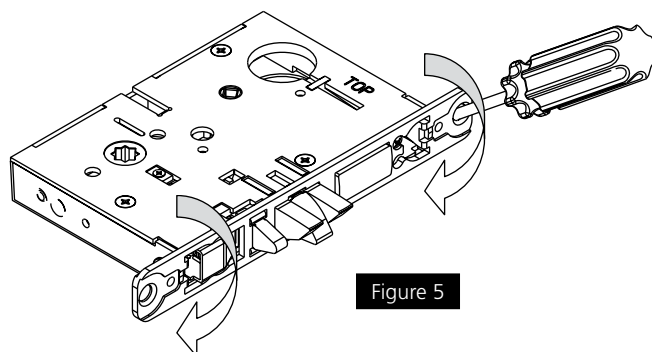

Figure 5
5. Rotate lock front to match bevel of door as shown (Figure 5)